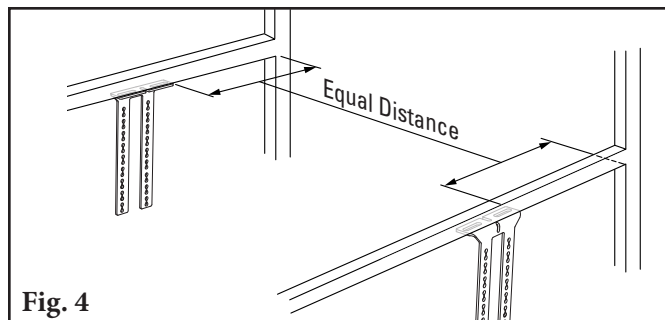

Fig. 4
- 4. Square the mounting brackets.** Measure from a fixed location on both sides to ensure alignment (Fig. 4).
4. **Square the mounting brackets.** Measure from a fixed location on both sides to ensure alignment (Fig. 4).